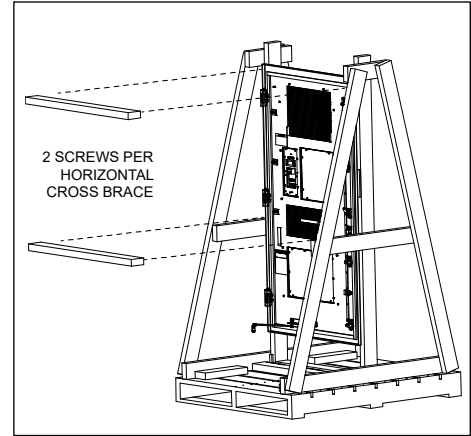

Figure 2
1. Locate the cross braces on the back of the kit replacement door (Figure 2).